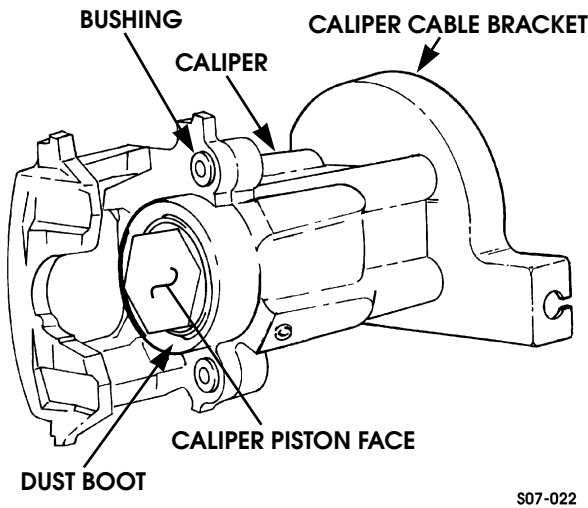

Figure 7-20: Rear Dual Brake Caliper
2. Inspect caliper and caliper piston face for pitting or damage (Figure 7-20).
4. Using special tool J-42553, rotate caliper piston in a clockwise direction, and at the same time apply force on outer piston face until caliper piston is seated in piston bore (Figure 7-20).